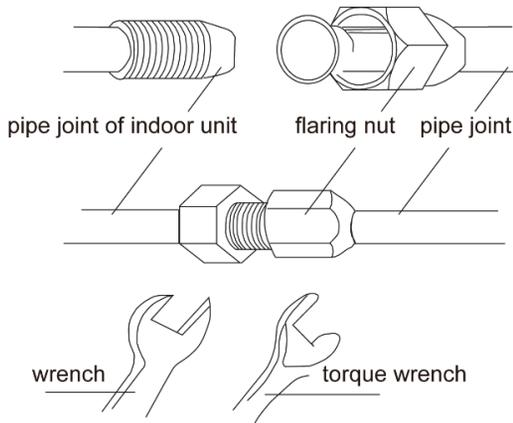

Fig.4.2.1
(1) Aim the flaring port of copper pipe at the center of screwed joint and then tighten the flaring nut with hand as shown in fig. 4.2.1.
(2) Tighten the flaring nut with torque wrench.